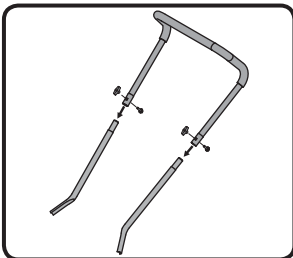

Fig. 1
- Secure the upper handle to the middle handles with two carriage bolts and two twist knobs (Fig. 1).